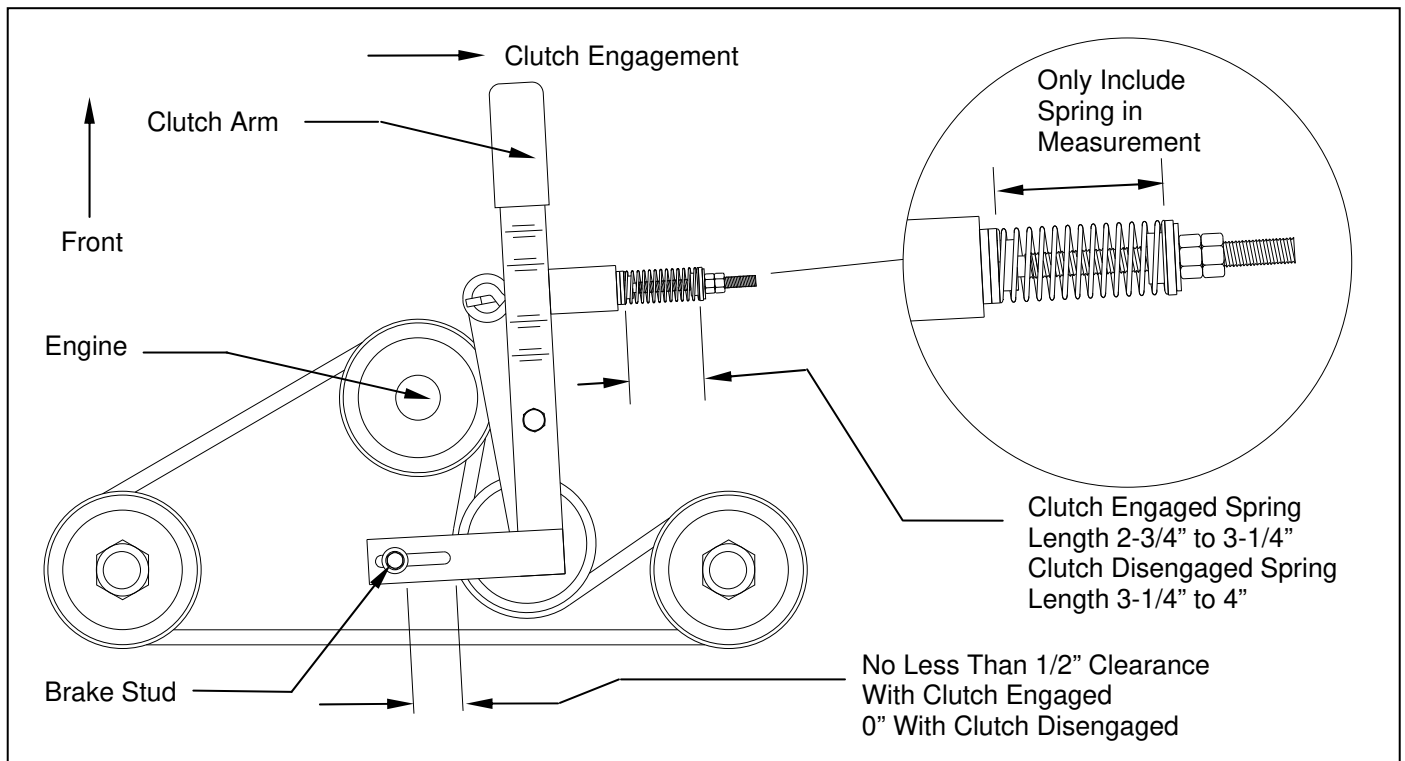

Figure 10: Belt Pattern and Spring Adjustment (Model H40B)
**Model H40B – See Figure 10.**